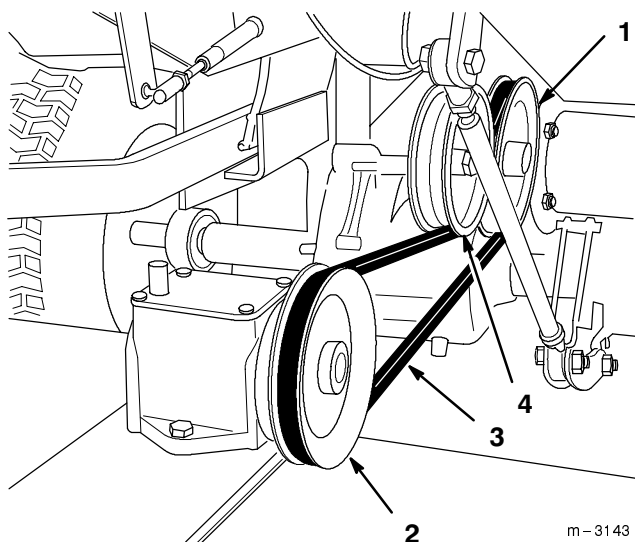

Figure 5
2. Install the drive belt around the jackshaft pulley, on the traction unit, and the gearbox pulley. Raise the idler pulley and position over the upper portion of the drive belt (Fig. 5).